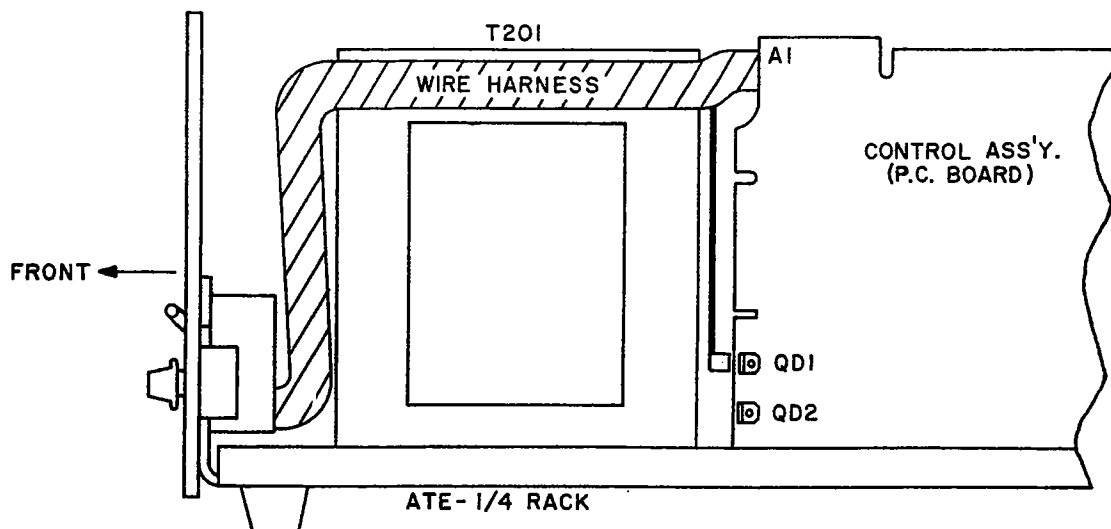

FIG. 2-5 LOCATION OF INTERNAL SIGNAL GROUND. SIGNAL GROUND NETWORK SHOWN CONNECTED VIA QD-1. TO REMOVE SIGNAL GROUND, PLACE WIRE LUG ONTO QD-2.
A resistor/capacitor network (R59, C27), is connected from the negative output terminal to the metal chassis of the power supply (via QD-1). If the internal signal ground is *not* desired, the connection to the chassis can be opened by changing the wire lug position from QD-1 to QD-2 (See FIG. 2-5).
- STEP 1: Remove Links (19)-(20) and (43)-(45) on PC-12. This removes the output capacitor (C_o).
- STEP 2: Remove jumper (45)-(47) on PC-12. This removes the main feedback capacitor (C_f).
- STEP 3: Connect wire jumper on PC-12 from (26) to (27). This connects a lag network.
- STEP 4: Refer to Section II, FIG 2-5 and remove the internal grounding network.
- STEP 5: Connect wire jumper from (39) to (48) on PC-12. This introduces a required delay in the crowbar circuit.